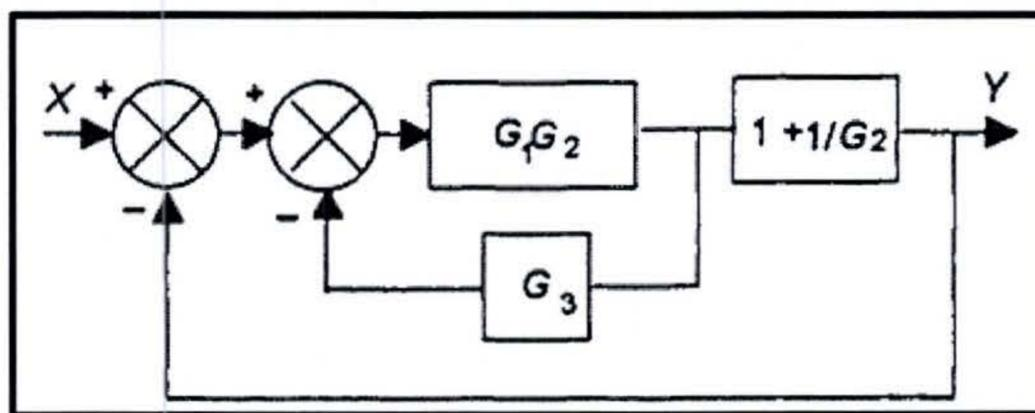

Figure B.1 Control system.
- ♦ When the red pushbutton (PR) is pressed, the red pilot light and motor one (M1) are energized. They will stay on until SW is opened.
- ♦ When the green pushbutton (PG) is closed, both white and green pilot lights turn on, and motor one (M1) and motor two (M2) will run. They will stay on until MSW is opened.
- (b) Determine the overall transfer function for the systems shown in Figure B.1 [6]